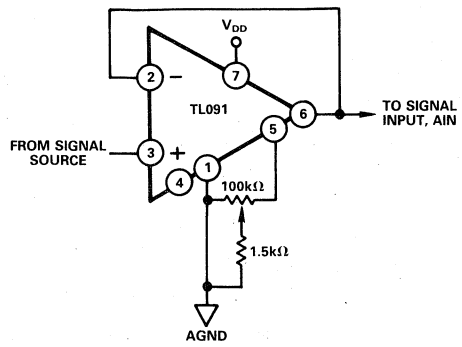

Figure 13. Offset Adjust Circuit
- OFFSET ERROR:** Offset error adjustment in single-supply systems may be easily achieved by means of the offset null facility of an op-amp when used as a voltage follower for the analog input signal AIN (see Figure 13). The op-amp chosen should be able to operate from a single supply and allow a common-mode input voltage range that includes 0V, e.g. TL091. To adjust for zero offset error the input signal source is set to +4.8mV (i.e., 1/2 LSB) while the 100kΩ potentiometer is varied until the ADC output code flickers between 000...00 and 000...01.